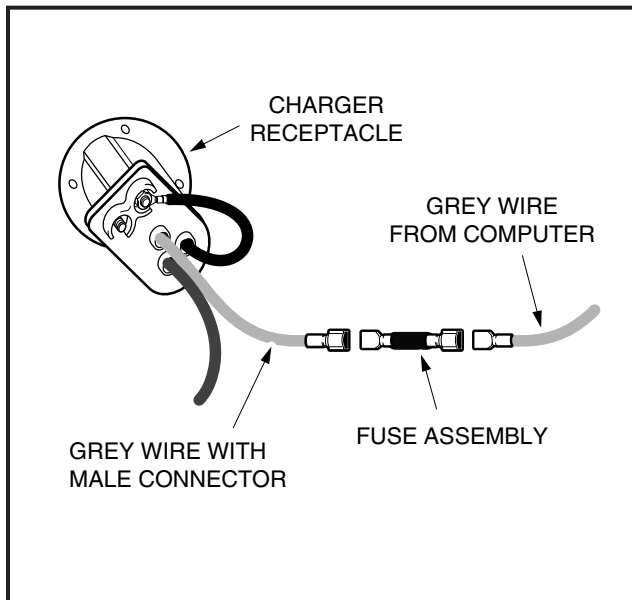

FIGURE 19-6
- 3.3 Check the connections of the No. 10 grey wire from the receptacle to the sense lead fuse, and from the sense lead fuse to the on-board computer wire harness (**Figure 19-6, Page 19-14**).